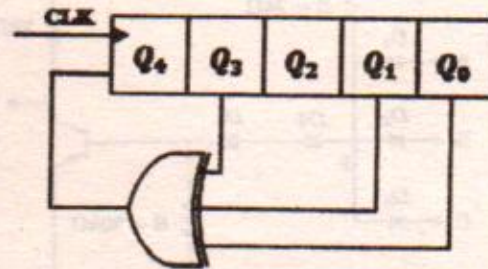

Figure 2
- IV. A 5-bit Serial-In Parallel-Out (SIPO) shift register is shown in Figure 2. If the initial data of the shift register is 10110, determine the output of the shift register after three clock cycles. (3 marks)